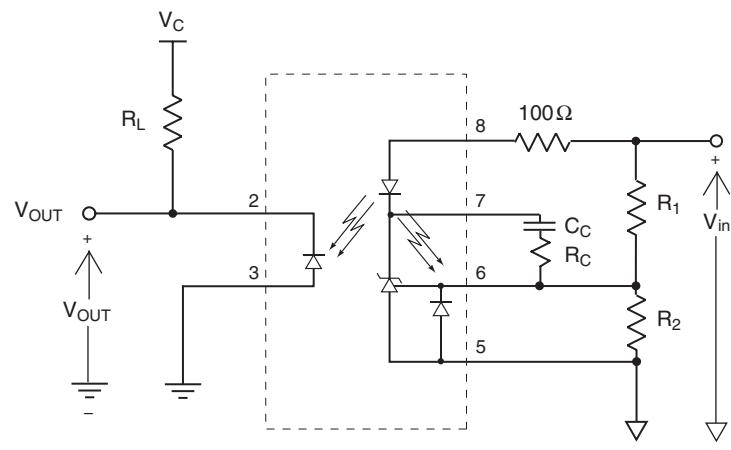

Fig. 6. Power Supply Feedback Application Circuit
2. The dynamic impedance is defined as $|Z_{OUT}| = \Delta V_{COMP} / \Delta I_{LED}$, for the application circuit in Figure 6, $|Z_{out}| \approx K_1 R_1$
Setting the gain for the LIA120 is accomplished simply by setting two resistors. The application circuit in Figure 6 shows a resistor divider feeding the FB pin, so the operating conditions for the gain are governed by: